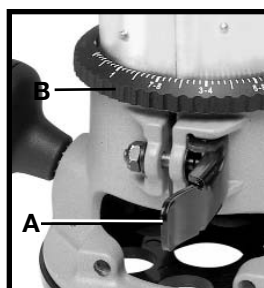

Fig. 3
1. Open the clamp (A) Fig. 3 and set the power unit in the base unit.
2. Align the lower pin of the power unit (B) Fig. 3 with the groove in the base.